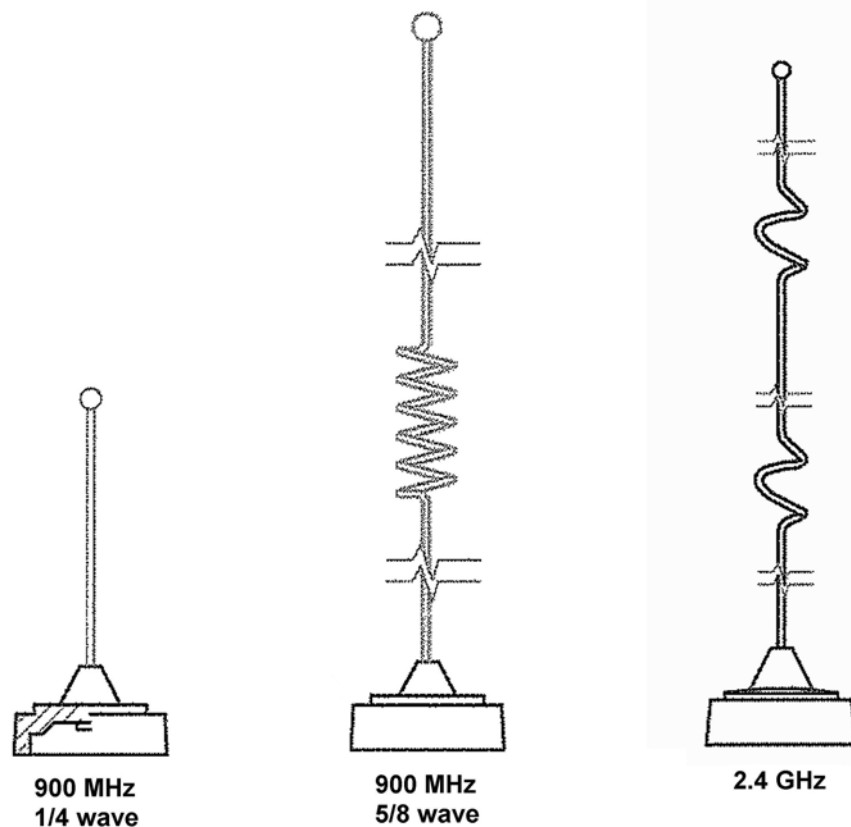

Figure 7. Remote External Antennas
- l. The different antennas supplied with the remote external antenna kits are illustrated in Figure 7. Verify the needed antenna matches one of the illustrations in Figure 7. Install the antenna on the brass nut, and tighten. The rubber gasket should seal the space between the antenna and enclosure.